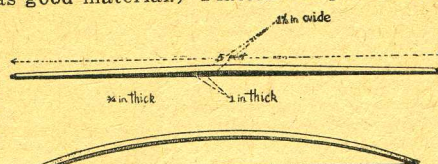
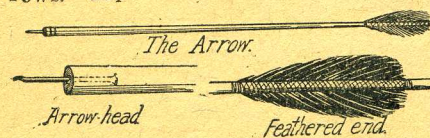

FIGURE 1.
FIGURE 2.
It is evident that two such telephones as above described are necessary in order to carry on conversation. They may be placed in different rooms and No. 18 electric bell wire used for a line. The whole box should be screwed to the wall by screws passing through parts I and J of Fig. 2. The whole is then shellaced.
The instrument is made of wood, and consists of four perforated strips, A, B, C, D and a block, E. These strips are arranged as in Fig. 1, joined together at the intersections, the two crossings being also joined together at F and G.
Make the block (E) 1 inch thick,  $\frac{3}{4}$  inch high and 3 inches long, shaped as in Fig. 2. Cut two wooden strips (A and B Fig. 1) 1 foot  $3\frac{1}{2}$  inches long, as in Fig. 3. At J drill a  $\frac{3}{8}$ -inch hole for pencil to fit, and at other end of strip B drill a very small hole. These holes should be 1 ft.  $2\frac{1}{4}$  in. apart from their centers, and the limb A should be similarly drilled, but with small holes at each end. Cut the strips
for C and D  $12\frac{1}{2}$  inches long, and  $\frac{1}{4}$  inch from end of each drill a hole and insert a tracing point (G) which can be a 1-inch wire nail. When joined together the strips will look like Fig. 1, each strip being  $\frac{1}{4}$  inch wide  $\frac{1}{2}$  inch thick, as shown in Figures 3, 4 and 5, and the perforations along the strips being  $\frac{1}{4}$  inch apart. The intersections at H H are coupled together with small screw eyes.
knotted hickory plank and allowed the wood to remain in the water until it became pliable enough to bend in the shape of Fig. 1. When it had assumed the proper curve he nailed on the side-pieces (1) to hold
He sawed the wood in as many places as would allow (Fig. 2). Each piece was now a boomerang in the rough that only
Next cut four boards 1½ inches wide by 15 inches long (Fig. 4). Next cut a board 20 inches long, 10 inches wide, as Fig. 2. Now get two blocks of wood 8x8 inches. In one of them bore a hole one inch in diameter. Then get an iron bolt.
Next take Fig. 3, bore a hole one inch in diameter near one end and in the center. Take Fig. 2, nail it on these cross-pieces with hole near the front. Do the same with other sled, but do not bore a hole in Fig. 2.